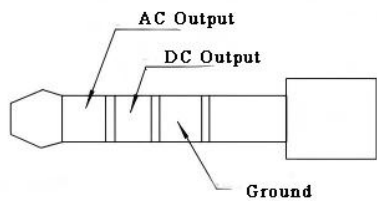

Figure 4-5 Stereo Plug Pins
(1) DC Power Port: Used for fast charging of the instrument, with a maximum charging power of 20 W;
(2) USB Type-C Port: When connected to a computer, the instrument can be used as a USB flash drive; it can also be used to charge the instrument;
(3) IO Expansion Port: When connected to a serial adapter cable, it enables RS-232 data communication; when connected to a computer, it allows real-time transmission of measurement data; when connected to a mini-printer, it prints measurement results and related charts; when connected to a multifunction expander, it provides additional RS-232, LAN, and USB ports;
(4) AC/DC Output Interface: This socket uses a stereo output jack. When paired with a plug, the pin assignments are as shown in Figure 4-5. The AC output amplitude is adjustable in two steps, with a 100-fold difference between each step. “9.5 mV/Pa” indicates that when a sound pressure of 1 Pa is applied to the instrument’s measurement microphone, the AC output pin will produce an AC signal of approximately 9.5 mV. When the AC output amplitude is set to 950 mV/Pa, the AC output amplitude increases under the same sound pressure; however, when the sound pressure applied to the measurement microphone is high, the AC output may become distorted. DC output ratio: 20 mV/dB. At 100 dB, the output voltage is 2 V; the maximum output voltage is 3.1 V.